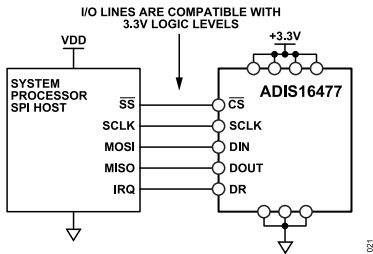

Figure 25. Electrical Connection Diagram
The SPI provides access to the user registers (see Table 8). Figure 25 shows the most common connections between the ADIS16477 and a SPI host device which is often an embedded processor that has a SPI-compatible interface. In this example, the SPI host uses an interrupt service routine to collect data every time the data ready (DR) signal pulses.